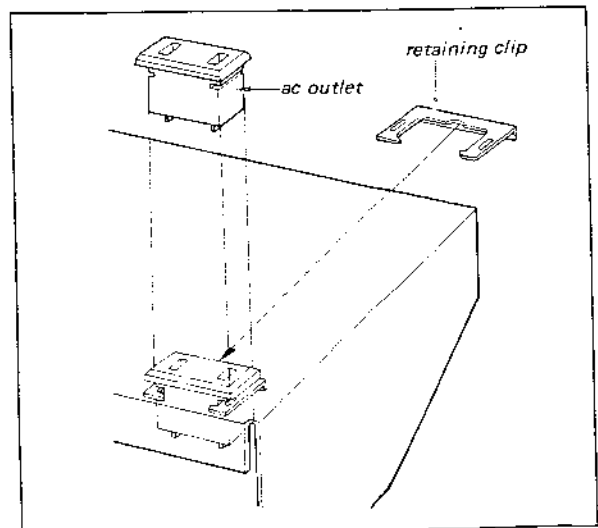

Fig. 2-14. AC outlet replacement
2. Pry out the outlet retaining clip with a screwdriver as shown in Fig. 2-14.